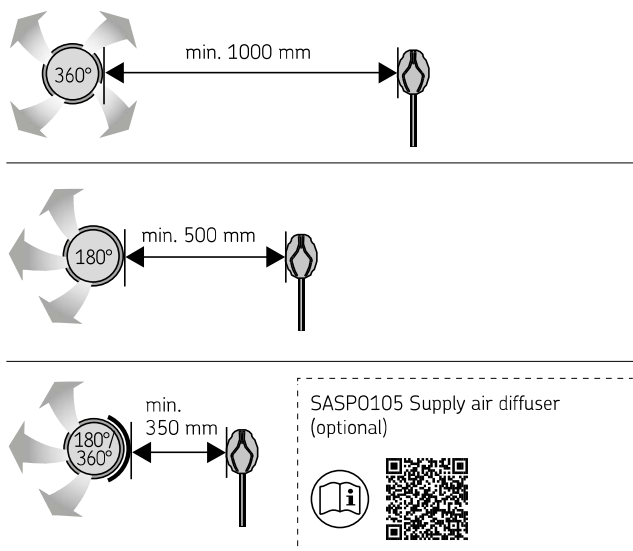

Figure 9. Minimum distance from the supply air vent to the temperature sensor
- **Mechanical ventilation:** The supply air vent must be located in the upper part of the sauna so that it does not interfere with the operation of the temperature sensor. (Figure 9. Minimum distance from the supply air vent to the temperature sensor)